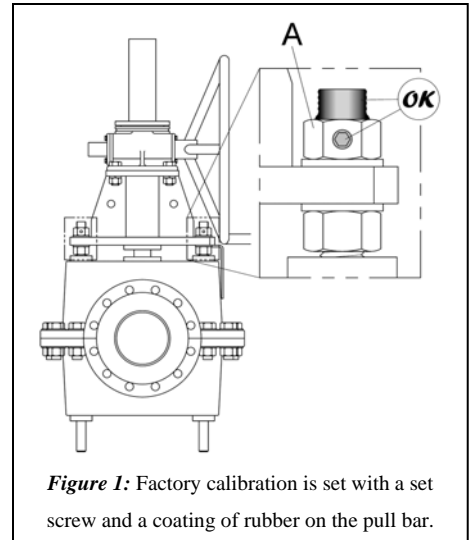

Figure 1: Factory calibration is set with a set screw and a coating of rubber on the pull bar.
STEP 9: Tighten the B-nuts against the bottom of the fastening plate. DO NOT allow the A-nut to turn along the pull bar during this step. Apply blue rubber coating (Fig. 1) to exposed thread above A-nut indicating RF Valve is now correctly calibrated. DO NOT CHANGE!
The RF Valve® is factory calibrated to close with enough force to seal against pipeline pressure. After calibration is completed, a set screw is inserted into each of the A-nuts and a coating of blue rubber is applied to the pull bar threads above the A-nut (Fig. 1).
- The A-nuts have been disturbed (for example: missing set screw and/or missing blue rubber coating). See Fig. 1.